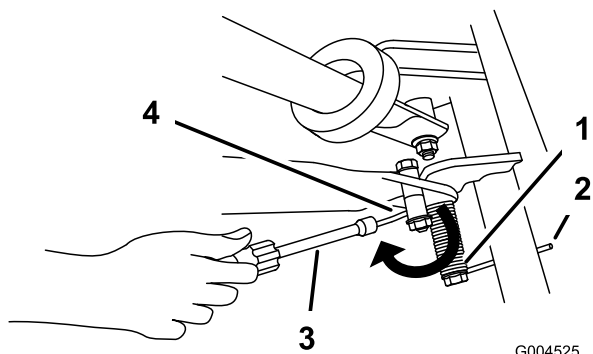

Figure 7
6. Place a nut runner over the end of the spring pointing towards the rear and move the end of the spring over and under the kickstand spacer (Figure 7).